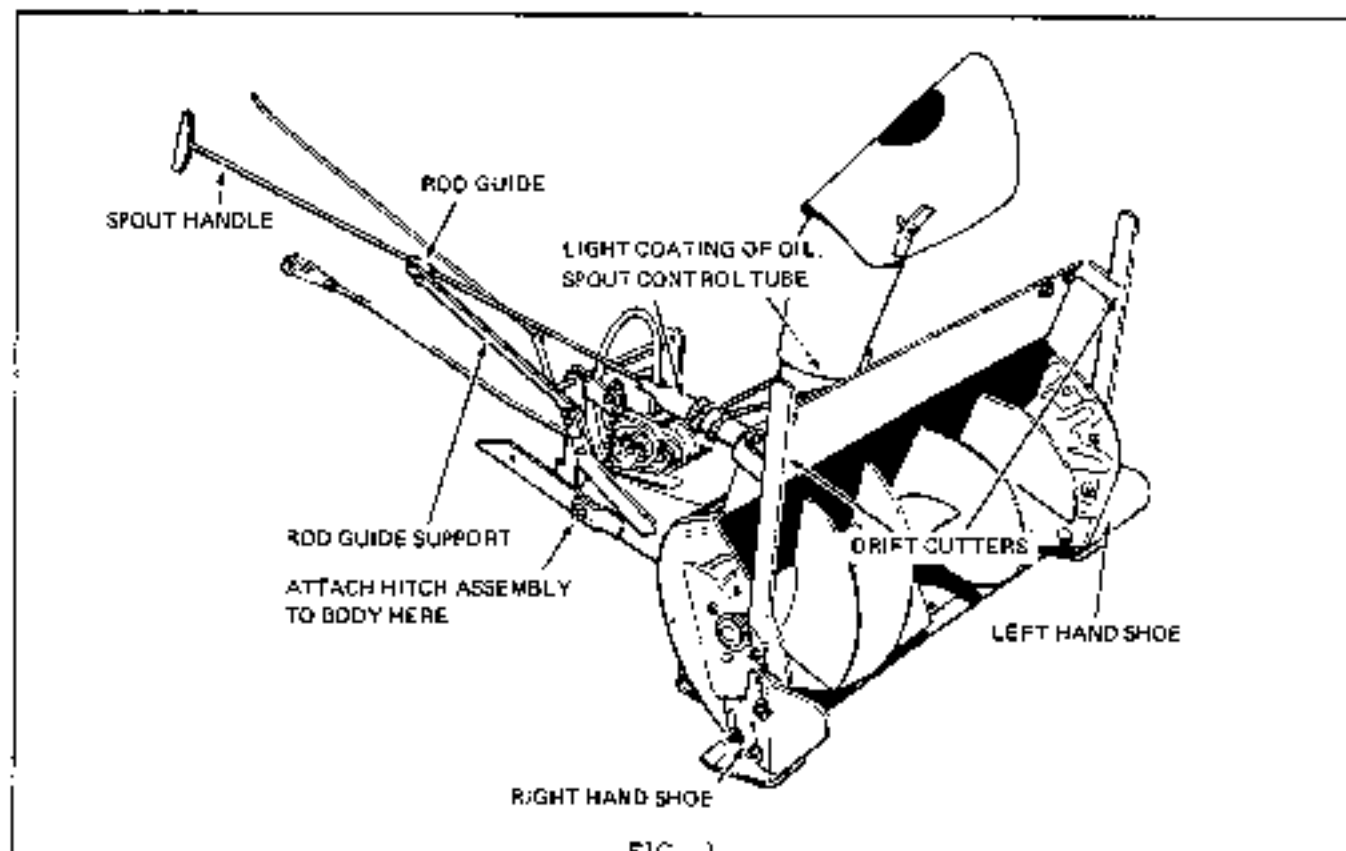

FIG. 1
1. Attach left and right hand shoe to body assembly with 3/8-16NC-3/4 long carriage bolt, 3/8 plain and 3/8 lockwasher. Secure with 3/8-16NC hex full nut, which is on outside of shoe at desired elevation for your specific needs. (See Fig. 1).
2. Attach left and right hand drift cutters to outside of body assembly with 5/16-18NC-3/4 long hex cap screws, 5/16 plain and 5/16 lockwashers. Secure with 5/16-18NC hex full nut. (See Fig. 1).
3. Attach hitch assembly to rotor body assembly with 3/8-24NF-2-1/2 long hex head bolt, 3/8 plain and 3/8 spring washer. Secure in place with 3/8-24NF hex full locknut. (See Fig. 1).
10. Apply a light coating of oil to neck of discharge spout. Install spout and extension as shown. (See Fig. 1).
11. Attach rod guide support to top hole of lift rod bracket with 3/8-16NC-1/4 long cap screw, 3/8 lockwasher and 3/8-16NC hex full nut. **DO NOT TIGHTEN.** (See Fig. 1).
12. Insert handle assembly into spout control tube assembly and secure with 5/32" x 1" long cotter pin. Insert spout control tube assembly into bearing and secure in place with 2-1/8" x 3/4" long cotter pins. Insert handle assembly through rod guide. Tighten 3/8-16NC hex full nut on rod guide support which is in top hole of lift bracket, at desired angle of operator while on seat. (Fig. 1)